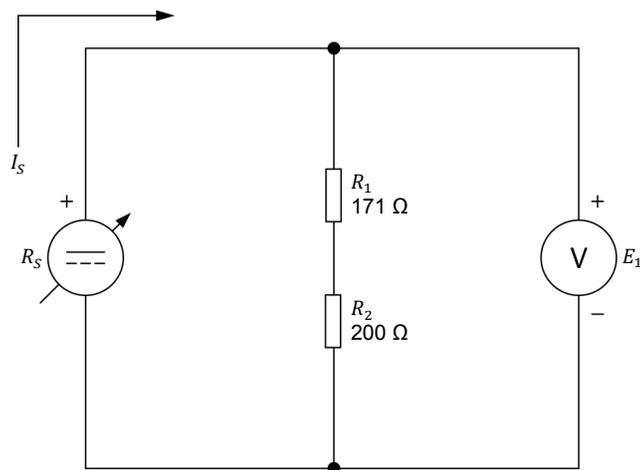

Figure 18. Determining the equivalent resistance of resistors connected in series.
3. Set up the series circuit shown in Figure 18. To obtain the resistor arrangement of Figure 18, make the necessary connections and switch settings on the Resistive Load module.
6. Calculate the equivalent resistance ($R_{Eq.}$) of series resistors R_1 and R_2 in Figure 18.